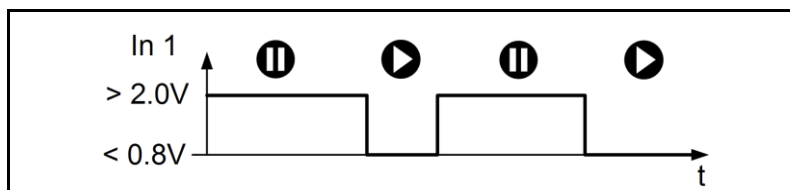

Fig. 60: Start / Stop level actuation
- ➔ The pump will start to operate if the level is below 0.8 V, and stop if it is above 2.0 V (see Fig. 60).